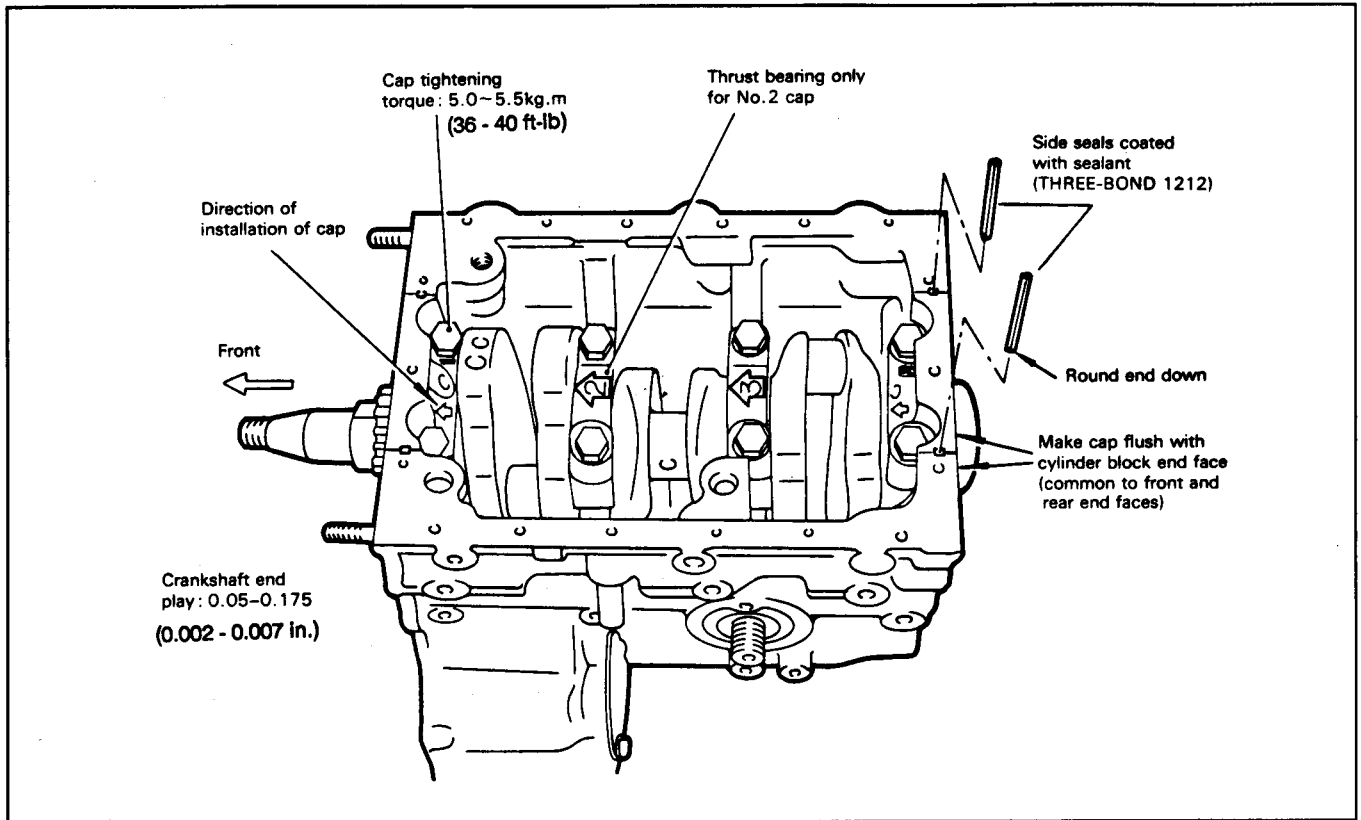

Figure 107
10. Reverse steps 1 - 5 to install the crankshaft (Fig. 107). When installing the No. 1 and No. 4 bearing caps, apply sealant (Permatex No. 2 or equivalent) to the upper surface that meets with the cylinder block.